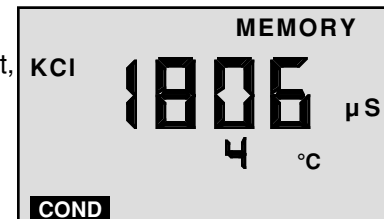

Figure 9
2. "MEMORY" will appear and the temperature display will be momentarily replaced by a number (1-100) showing the position of the record. Figure 9 shows a reading of 1806 μS stored in memory record #4.